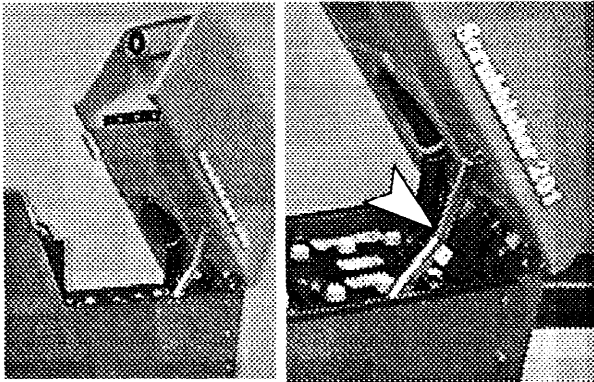

FIG. 29.
4. Hinge open recovery tank and engage scissor latch. (Figure 29)